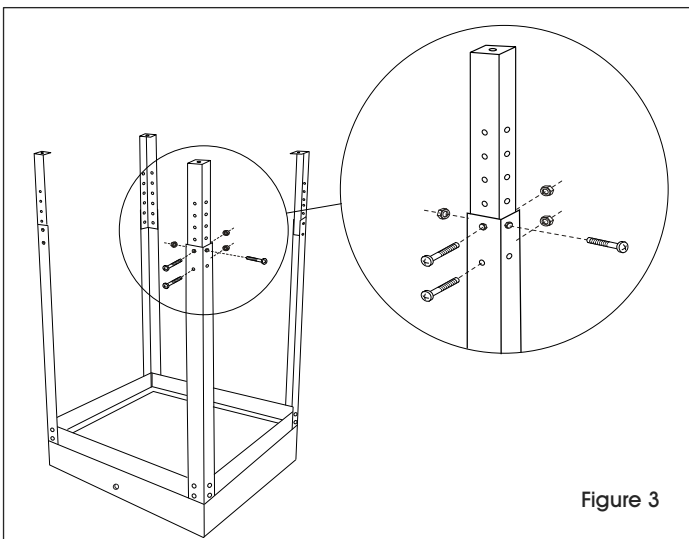

Figure 3
4. Attach adjustable feet to inside of legs at desired height. Only insert bolts in 3 of 4 holes, leaving the bottom hole on the sides open. Use 3 standard bolts and 3 nuts for each foot. (See Figure 3)